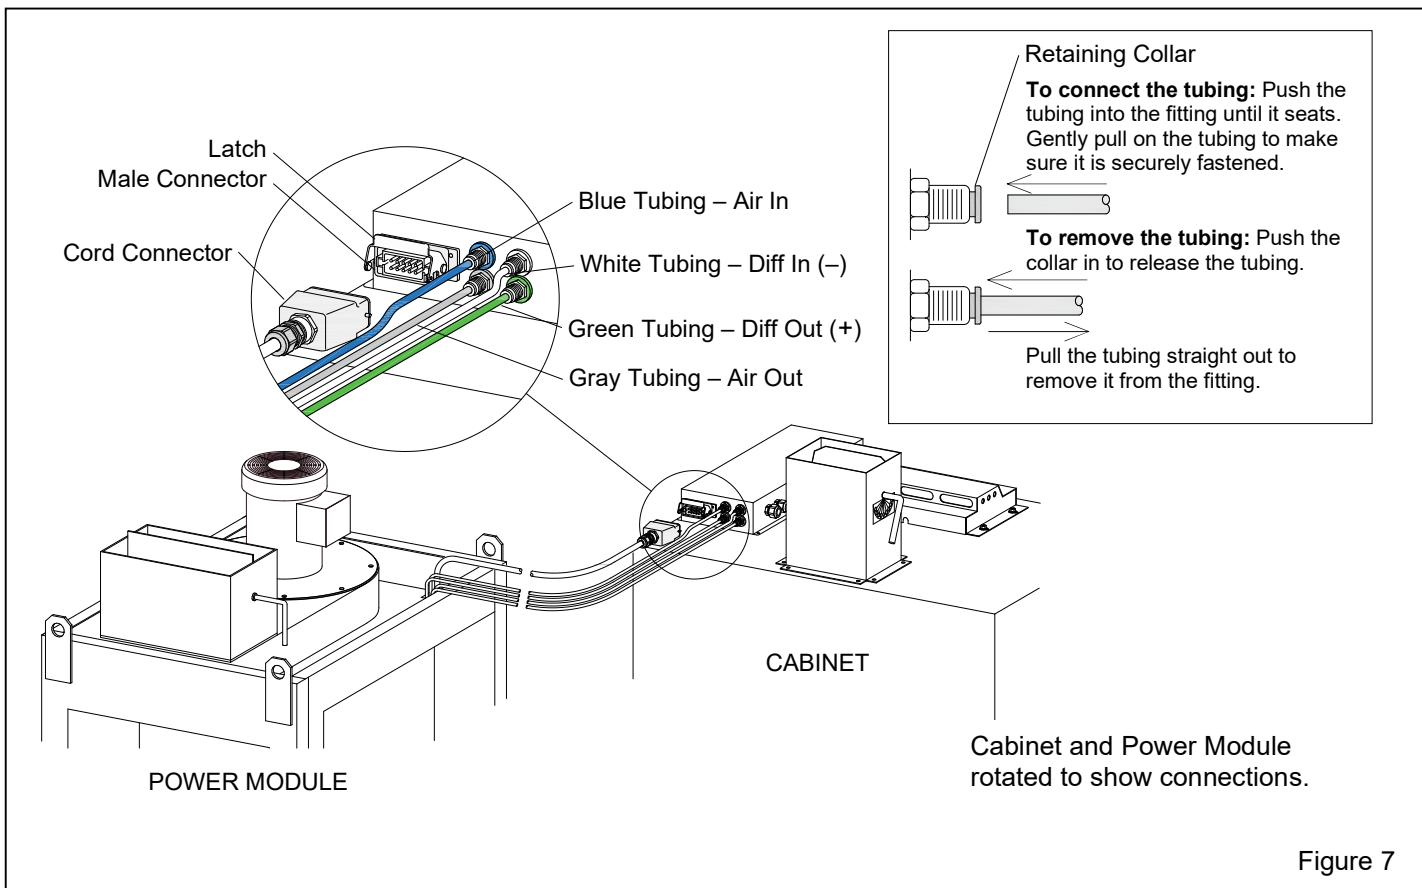

Figure 7
- The electrical cord and tubing (shown in Figure 7), which connects the power module to the cabinet, extends from the power module. Space the power module and cabinet to maintain slack in the cord and tubing.
2.2 Electrical and Tubing Connections from the Power Module to the Cabinet – Figure 7
2.2.2 Match the color-coded tubing with the matching fitting (the washer behind the fitting is color coded to match the tubing) on the back of the gauge panel. Insert the tubing through the collar until it seats, as shown in the insert in Figure 7. Tug gently on the tubing to make sure it is secured in the fitting.